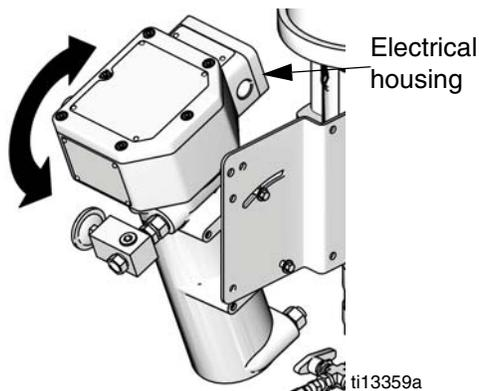

**FIG. 3. Non-Hazardous Location Electrical Cord**
**Cart Mount Non-Hazardous Location Wiring.** See FIG. 3. Replace installed fitting with bushing (80), shipped loose. Attach strain relief bushing (79). Follow all directions in the Viscon HP Heater manual 309524 to connect the 120V supplied electrical cord (78), or user-supplied cord for 240V applications.